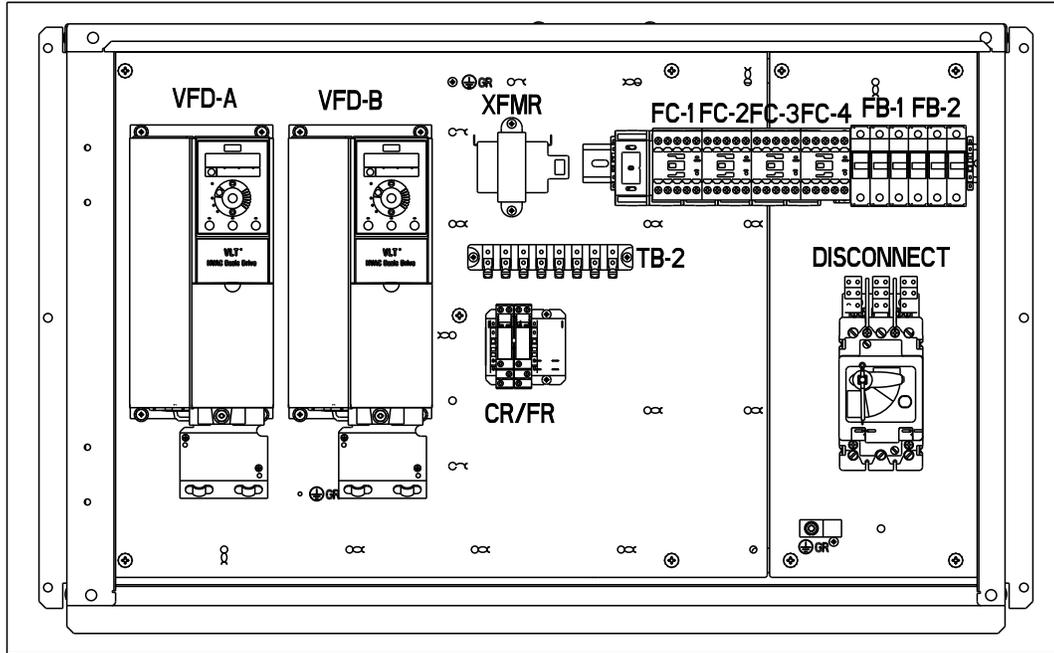

Fig. 1 — Control Panel Arrangement, 09RC020-060
3. VFD will mount in the control panel. Refer to Fig. 1 for VFD mounting location for 09RC020-060 units and Fig. 2 for 09RC080-145 units. Mount the VFD in the panel using the no. 10 screws, flat washer, and star washer.
4. For 020-060 size units, mount the din rail with no. 8 screws at the fan relay (FR). Add the relay, relay socket, and din rail stops to the din rail.
Control panel arrangements are shown in Fig. 1 and 2. Fan identification is shown in Fig. 3, transducer location is shown in Fig. 4 and 5, and transducer wire routing is shown in Fig. 6 and 7. Power schematics are shown in Fig. 8-10.